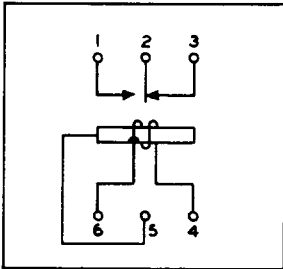

Fig. 70 – Winding and Spring Terminal Numbering as Viewed From the Bottom — 294-Type Relay
2.77 The winding and spring terminals of the 294-type relays, as viewed from the bottom are designated as shown in Fig. 70.